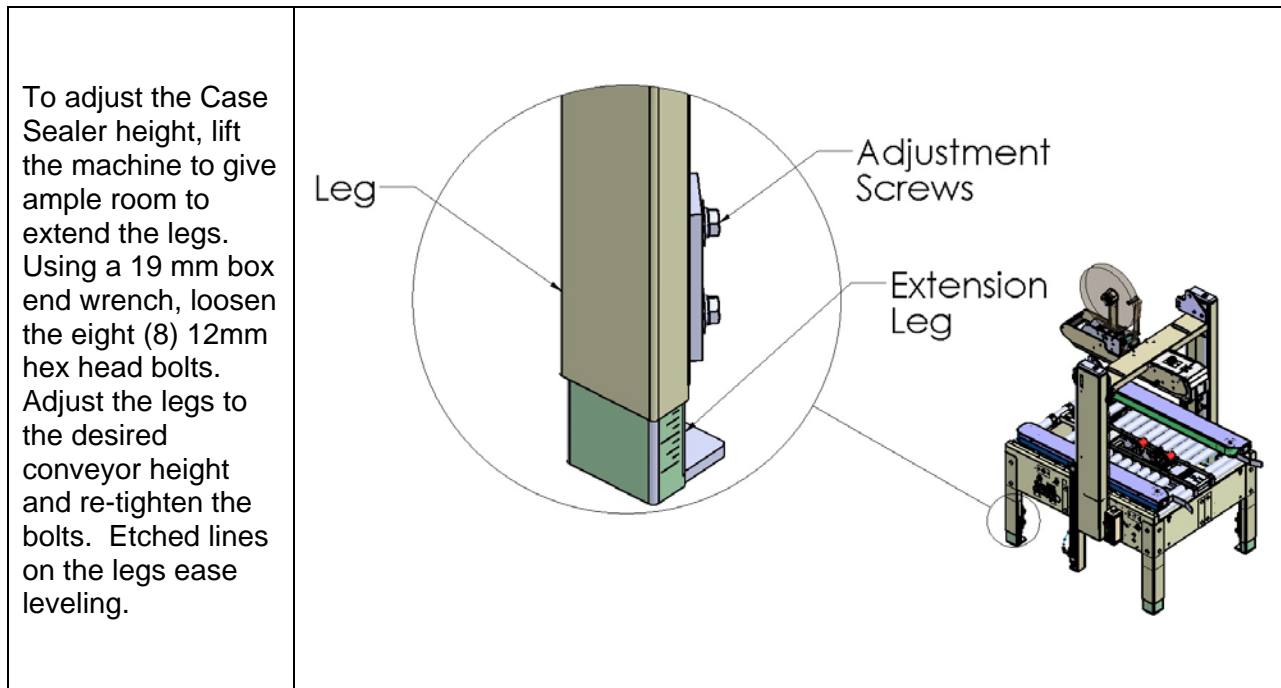

Figure-8
- D. Do not adjust the conveyor height by adjusting the caster. Proper conveyor height must be achieved by adjusting the leg extension of each leg. **(See Figure-8)**